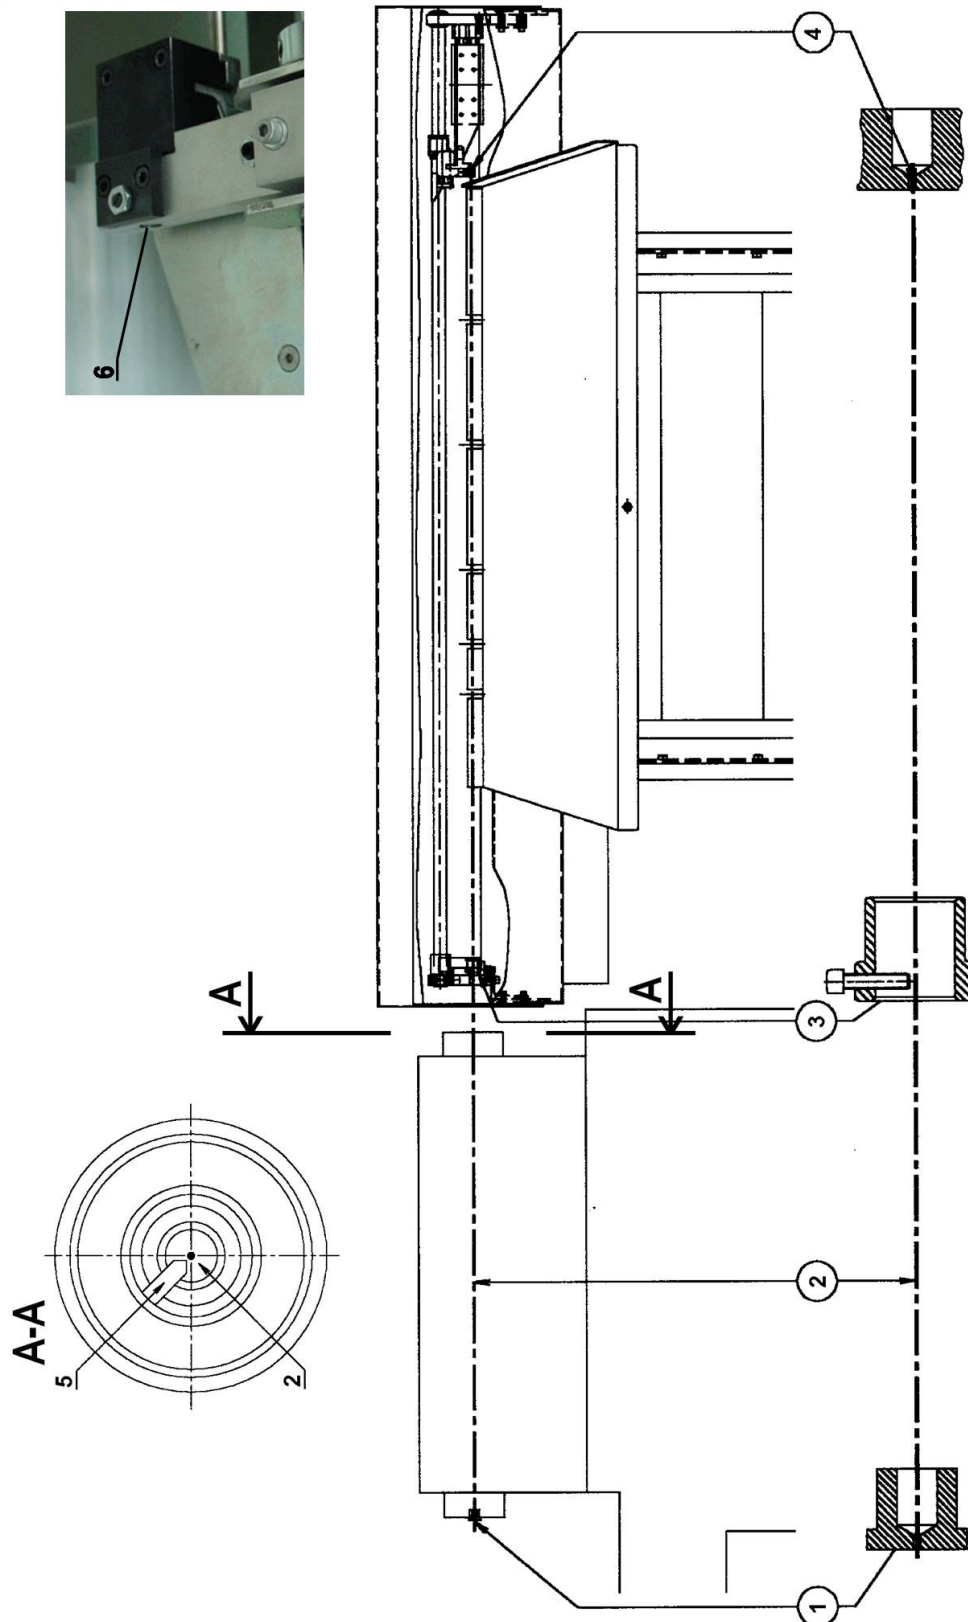

Fig. 3.2 - Setting Kit
- Install setting jigs, see Fig. 3.2.